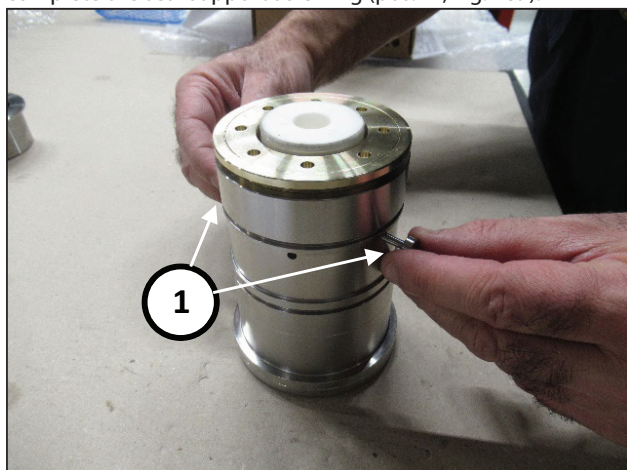
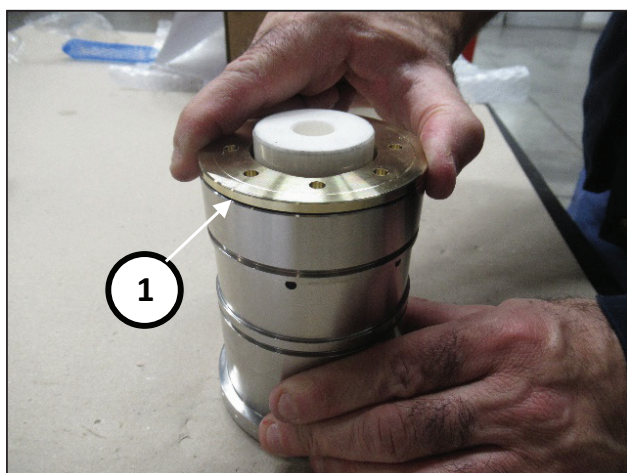

Fig. 188
Fig. 189
Remove the pins of tool code 27945400 (pos. ①, Fig. 188) and complete the seal support screwing (pos. ①, Fig. 189).